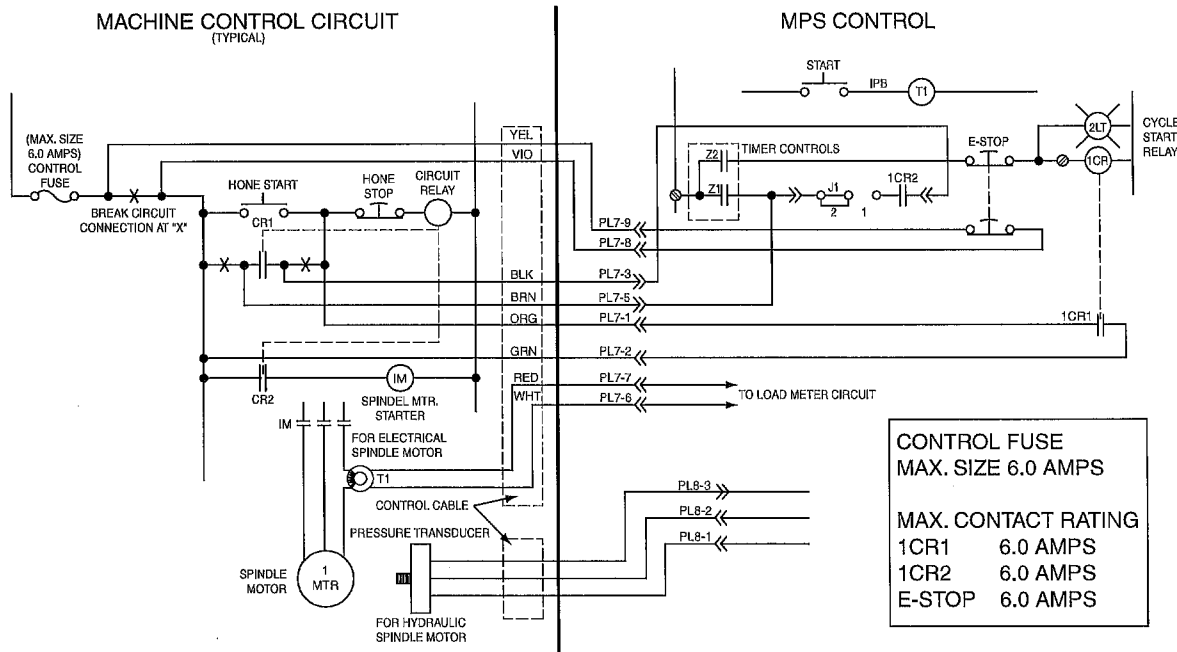

FIGURE 1-6, Wiring Option 1A
1. WIRING OPTION 1A, (Master Control Mode) for machine on which a Control Circuit Exists (see Figure 1-6).